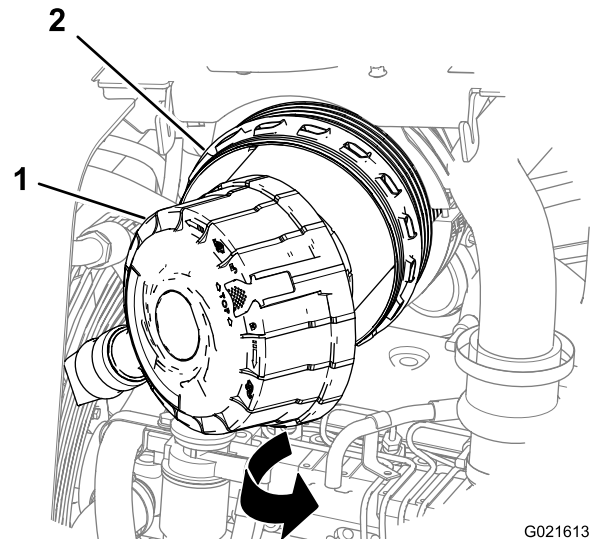

Figure 50
2. Align the air-cleaner cover onto the cleaner housing (Figure 50).
3. Use a clean damp cloth to clean the inside of the cleaner housing (Figure 50).
3. Clean the inside of the cleaner housing with a clean, damp cloth (Figure 50).